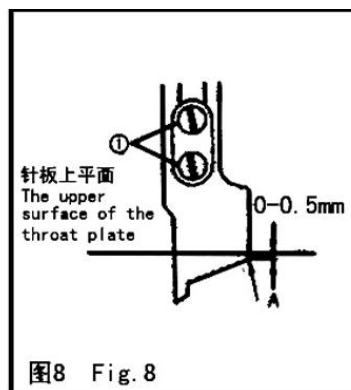
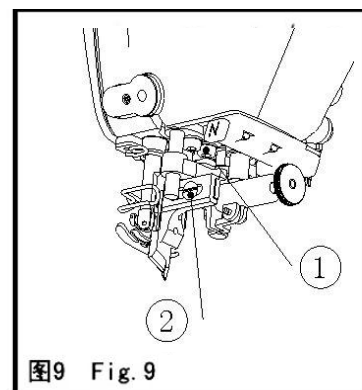

图8 Fig. 8
图9 Fig. 9
26. 切刀 (图、图 8 图 9) /Vertical edge trimmer(Fin.7,fig.8,fig.9)
2. 切刀的调整: 切刀的调整方法如 (图 8) 所示, 切刀运动到最下点时, 要调节切刀的 A 部至针板平面的距离为 0~0.5mm。要换刀片时, 放松 2 枚切刀紧固螺钉①即可。
3. 切缝宽度的变化: 切缝的宽度由针板规格来决定。改变切缝宽度时, 也要改变切刀的位置。放松切刀架螺钉②, 调正切刀的刃口与针板上刃口相接触, 再紧固切刀架螺钉。如果调节切刀平行度, 请放松螺钉① (图 9), 调节平行直至切布状况良好为止。(H9990A 标准规格的针板为 3.2mm)。
2. Adjustment of the cutter: the adjustment method of the cutter is shown in figure 8. When the cutter moves to the bottom point, the distance between part A of the cutter and the plane of the needle plate should be adjusted to be 0 ~ 0.5. To change the blade, relax 2 fastening screws can be.
3. Variation of cutting width: the width of cutting seam is determined by the specification of the needle plate. When you change the width of the slit, you should also change the position of the cutter. Relax the cutting tool holder screw, adjust the cutting edge of the knife and the edge of the needle plate contact, then tighten the cutting tool holder screw. Add to adjust the parallelism of the cutting tool, please loosen the screw (figure 9), the circumferential section is parallel until the cutting cloth shape is good. (the needle plate of H9990A standard specification is 3.2mm)